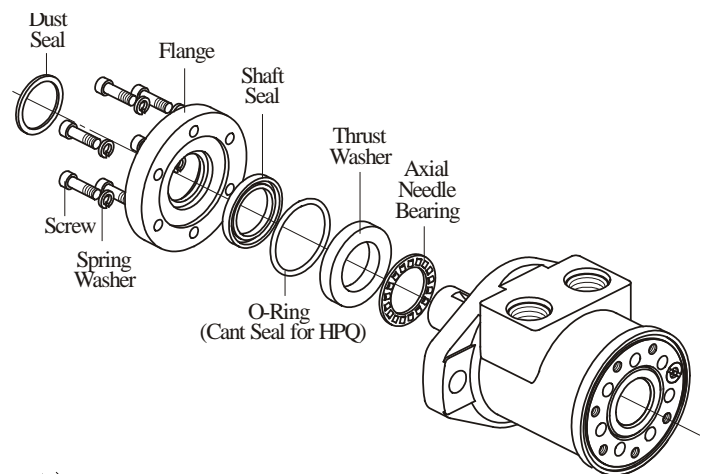

Fig.4
8. Unscrew screws using S6(5) Allen wrench (see Figure 4).